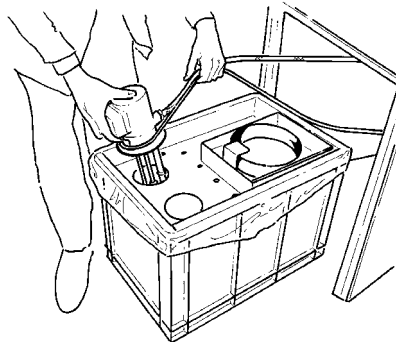

Fig. 1
- Place the pump in the lid (fig. 1).